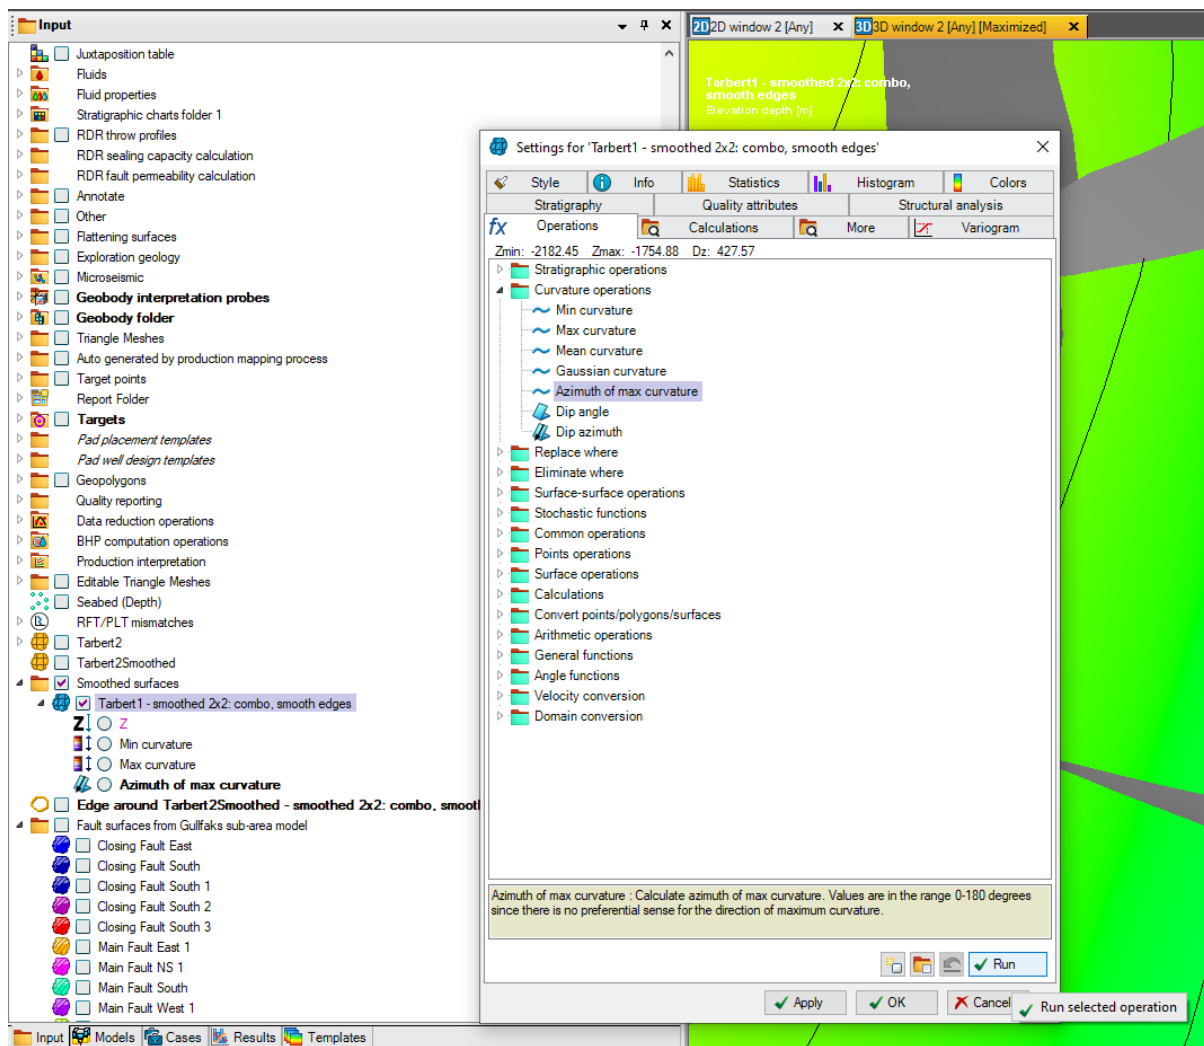

Figure 11: Calculating curvature as a surface attribute using the Curvature Operations algorithms.
3. Double-click on the (smoothed) surface to open the Settings dialog, go to the Operations tab and open the Curvature Operations folder to find the algorithms for calculating surface curvature. The three required horizontal strain components can be generated using the Min Curvature, Max Curvature and Azimuth of Max Curvature algorithms (select each icon in turn and then click on Run; the outputs should appear as three surface attributes, as shown on Figure 11).